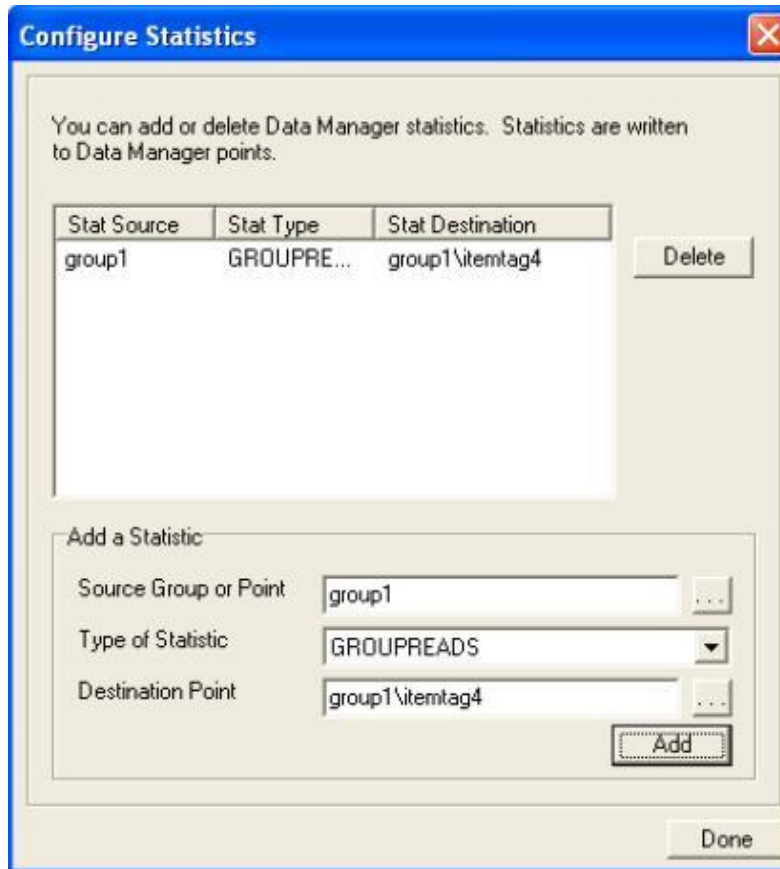

Figure 27 - New Statistic
4. Click on the **Add** button. The newly-created statistic now appears in the grid section of the window (Figure 27).
2. The **Configure Statistics** (Figure 27) window appears.